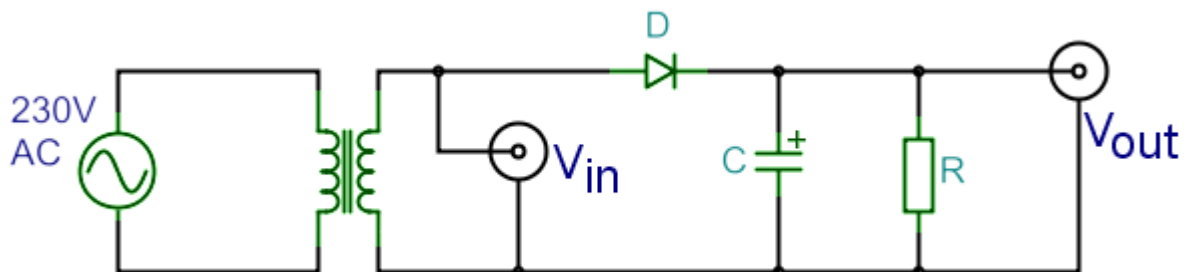

Figure 2.4 Half-wave rectifier circuit.
2.3.2 Build the circuit from *figure 2.4*. The R load resistor's value is **3.6k Ω** . Connect the signal V_{in} to channel 1 of the oscilloscope, this is the input of the circuit. Connect V_{out} to channel 2 of the oscilloscope, this is the output. (When using digital oscilloscope, take care to set up Edge mode for the trigger!) First don't connect the C capacitor in the circuit.